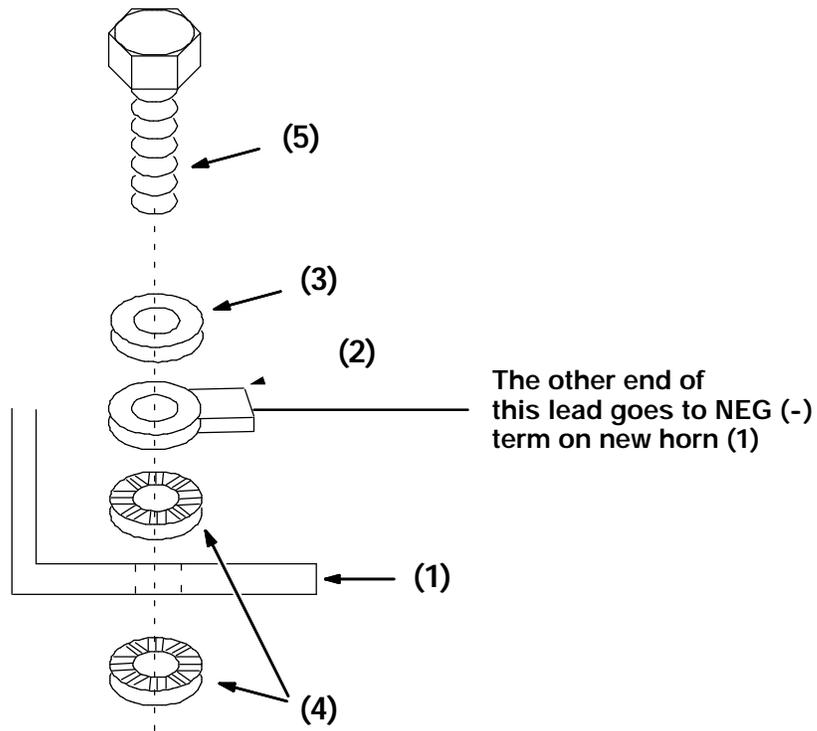

FIG. 1 - Horn Assembly
(Refer to FIG. 1)
1. Install the wire lead (2) on the negative terminal of the new horn (1) . (Refer to Fig. 1)
2. Position the new horn (1) in location of the old one.
3. Install the hardware starting with the M8 hex screw (5), 5/16 in. flat washer (3), wire lead (2), Loc-washer (4), horn mount, and a second loc-washer (4). (Refer to Fig. 1)
*NOTE: The M8 hex bolt (5) is for the 355/385 machine only. Other machines may use something different.*
4. Tighten the M8 hex screw to 18 - 24 Nm (15 - 20 ft lb). (Refer to Fig. 1)